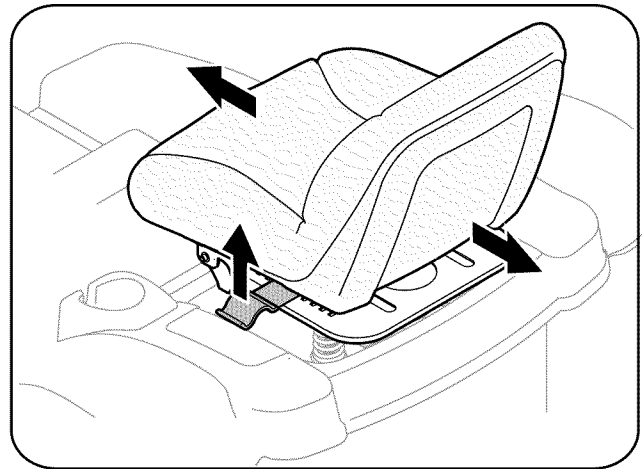

Figure 6-5
1. While sitting in the seat, grasp the seat adjustment lever on the left side of the seat and pull it upward to disengage from the seat index plate. See Figure 6-5.
2. Slide the seat to the desired position. See Figure 6-5.